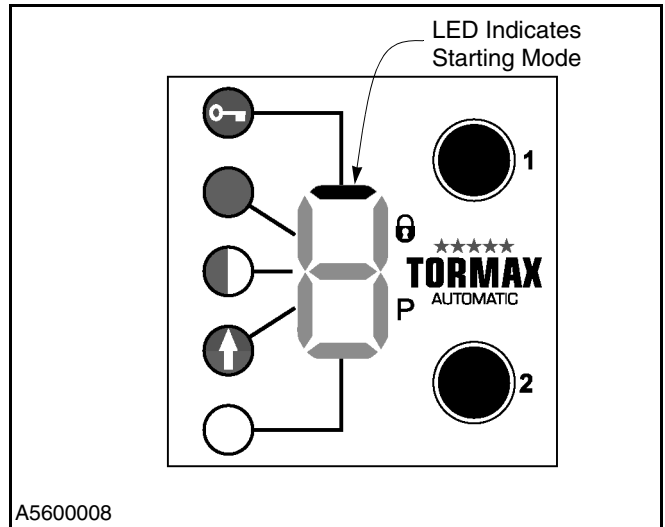

Figure 22
1. The upper LED indicates the starting mode. (See Figure 22.)
If P is not confirmed during the next 10 seconds with Key 2, the control panel returns to the indication of the starting mode (see Figure 22). During the next 10 minutes, pressing both keys simultaneously will cause a direct change to programming level P.